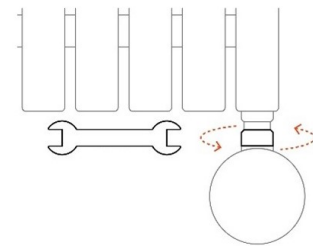

Figure 4 | Tighten element at main nut
- Tighten the element at the main nut, using a size 24 or adjustable spanner (**Figure 4**, right). Ensure the rubber O-ring, above the main nut, makes a firm seal between the radiator and the element. This prevents leakage after installation.